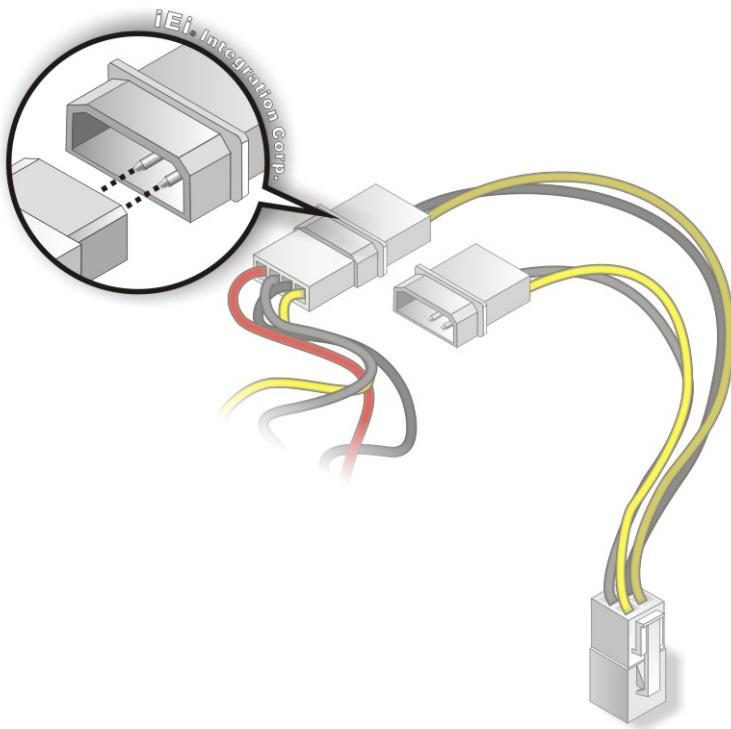

Figure 4-20: Connect Power Cable to Power Supply
**Step 3: Connect Power Cable to Power Supply.** Connect one of the 4-pin (1x4) Molex type power cable connectors to an AT/ATX power supply. See **Figure 4-20**.